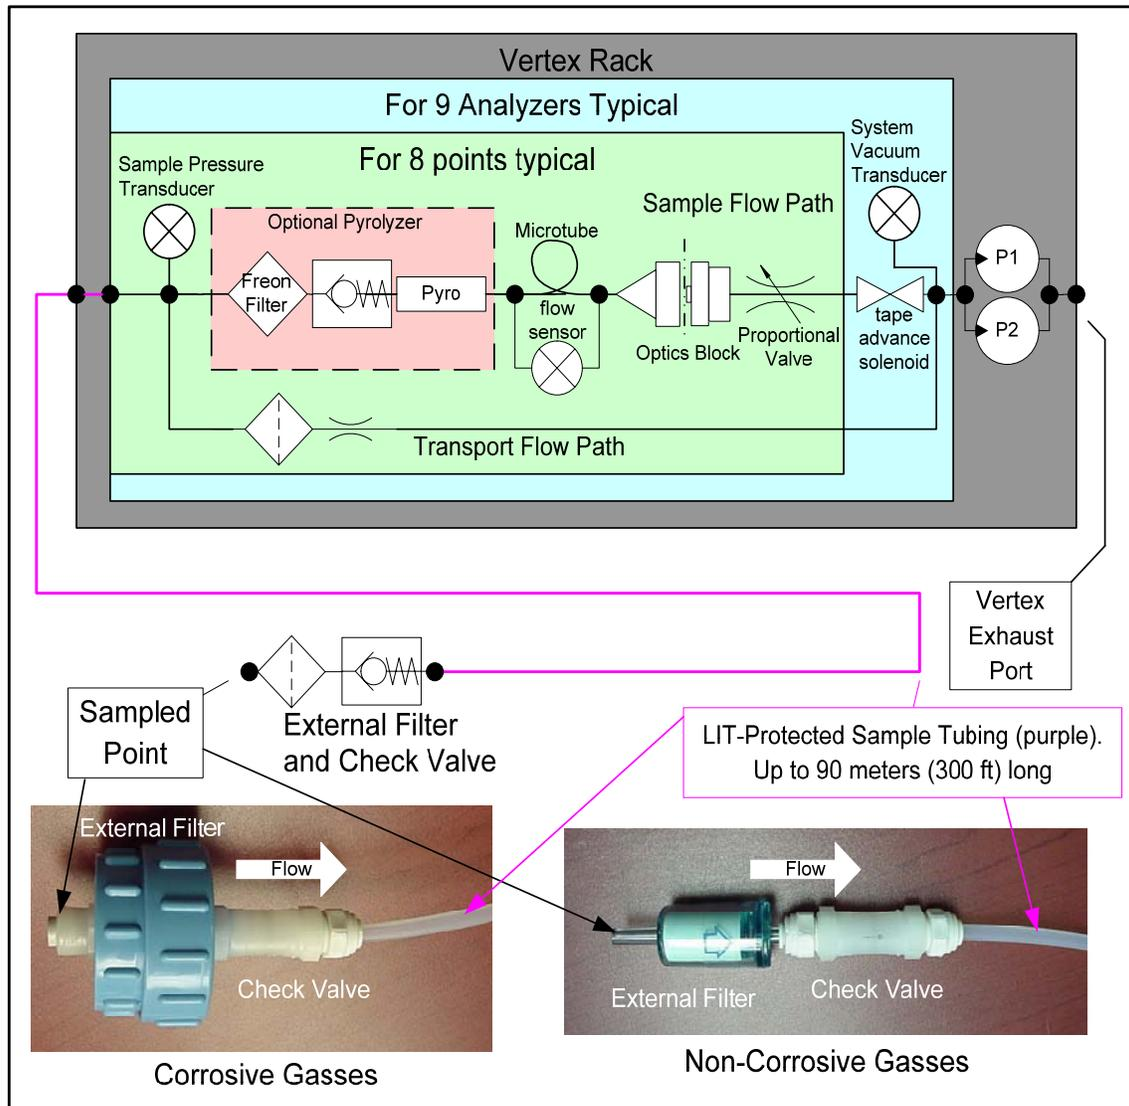

Figure 1 -- Simplified Pneumatic Schematic
The pneumatic design of the Vertex™ rack is summarized in Figure 1. The Vertex™ analyzer contains eight sample pressure transducers, one for each point. The external tubing is terminated with a filter and a check valve. The check valve will not permit any flow until a “cracking” pressure of about 1.0 in-Hg is applied. (See Note 1) A leak between the analyzer and the check valve will result in an increase in pressure at the analyzer.
The LIT measurement requires that the total pressure variance of the sampled point, the Vertex™ rack and the exhaust outlet must be less than 0.3 in-Hg. for correct operation (see Figure 1).
7. If not already installed, install the end of line filters and check valves as shown in Figure 1 on the LIT-enabled points. Be sure to perform an Auto Balance after installing check valves to compensate for the change in flow with the valves attached.